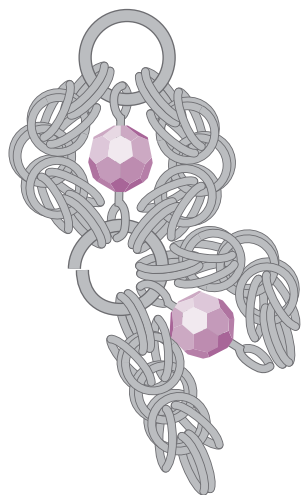
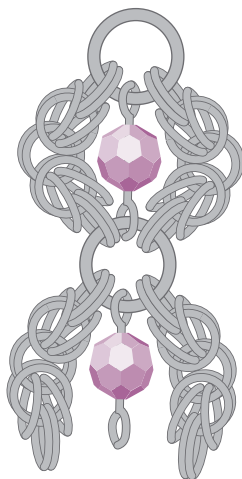

FIG. 4
FIG. 5
6. Thread 1 Byzantine chain segment, 1 bead component, and another Byzantine segment onto the large open jump ring just added (FIG. 4). Close the jump ring (FIG. 5).